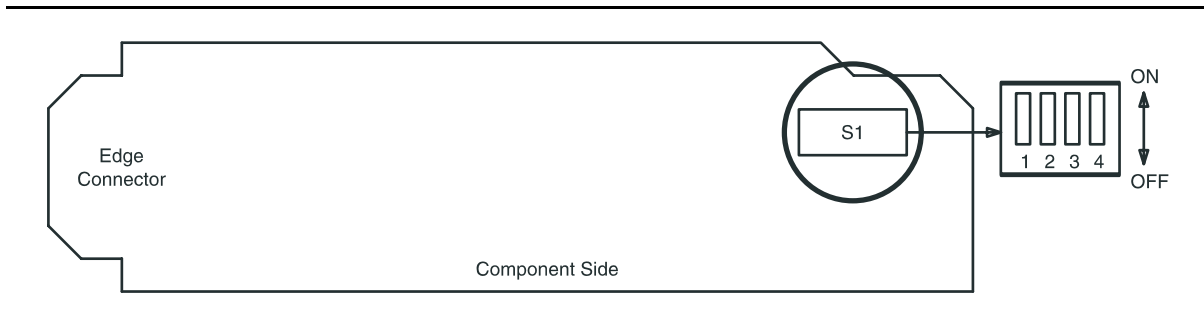

Figure 7 – BBF8 HDSL Control Switch
48. Set **HDSL** option switches per Table M and Figure 7.